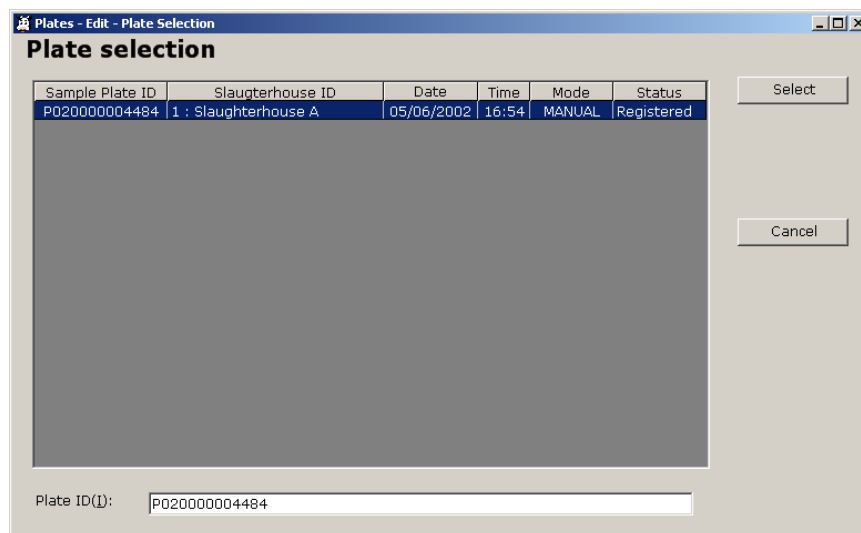

Fig. 5.2-2 : Plate selection
- (2) Select the plate to be modified in the list of plates with “registered” status (Fig 5.2-2)